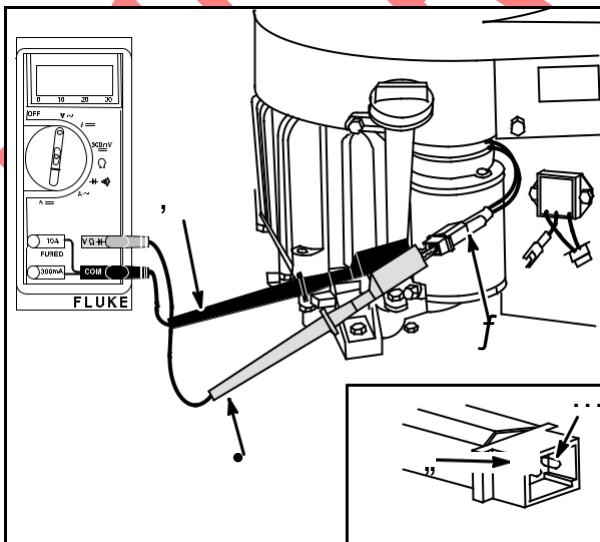

Fig. 27
Insert RED (1) and BLACK (2) test lead probes into output terminals (4, 5) in YELLOW connector (3), as shown in Fig. 27. (Test clip leads may be attached to either terminal.)